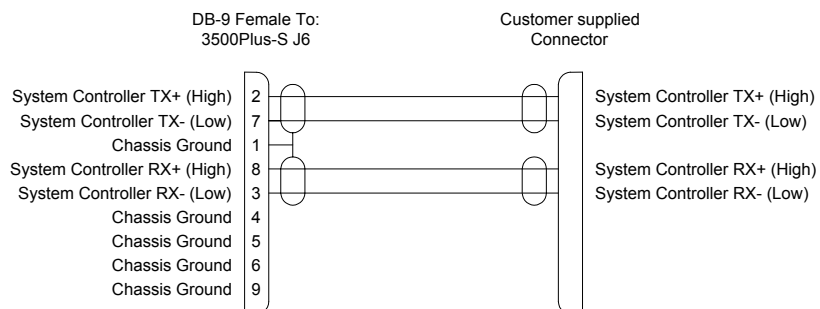

Figure 61. 3500Pro-S RS-422 CPU Link Cable
- COM 4 is an RS-422 CPU Link similar to the RS-232 CPU Link, except the cable may be up to 4000 feet in length and an RS-422 interface card must be installed in the expansion bus. COM 4 may be used with any of the protocols shown in Table 2 on page 43. If necessary, a cable may be fabricated in the field as shown in Figure 61.